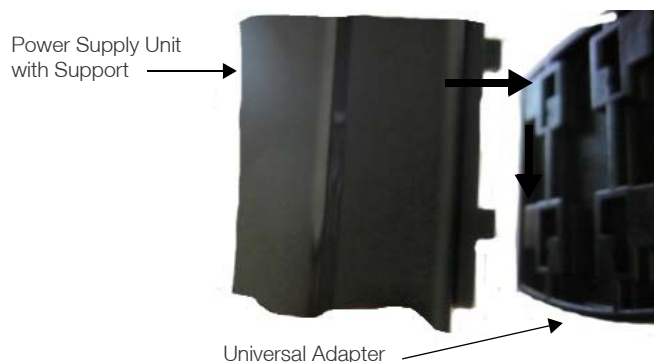

Figure 32. Installing power supply on universal adapter
3. a Take the power supply unit and press it with the attached universal holder onto the wall and then slide it down (thick black arrows in **Figure 32**).